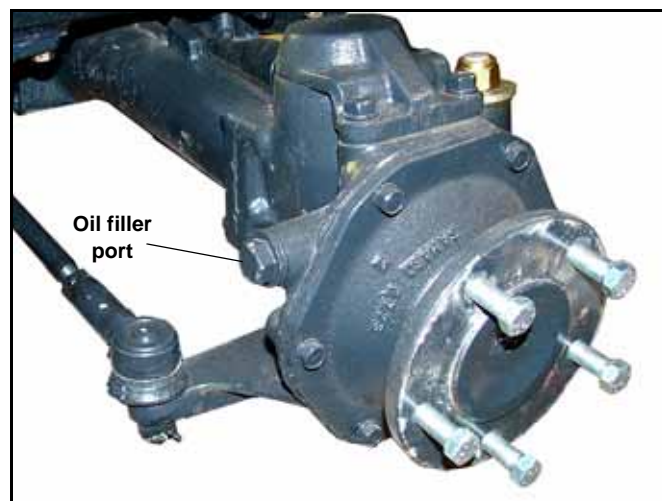

Figure 4-32
- b. Oil supply plugs are located on the front side of the right and left final reduction gear cases. Remove the plugs. Figure 4-32